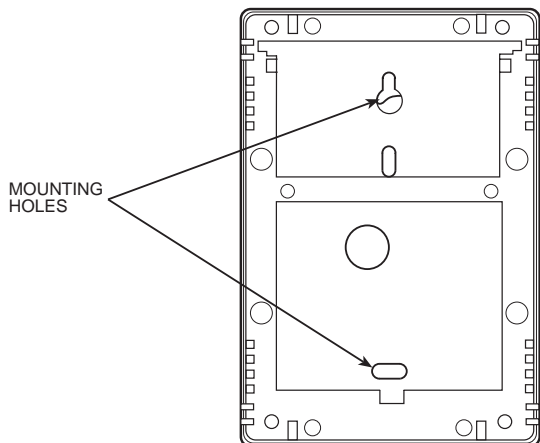

Fig. 1 — Transmitter Backplate
2. Remove the transmitter cover from wall plate (mounting base) to expose mounting holes. See Fig. 1.